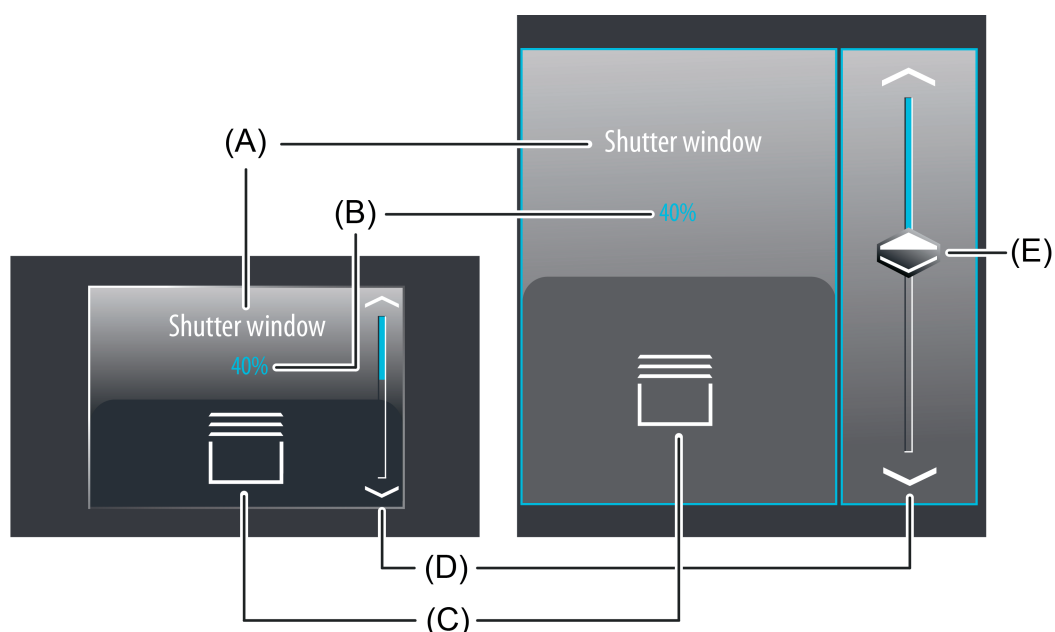

Figure 31: Example of an operating and display element of the function "Rolling shutter positioning"
In the selection operation, a slider (E) is also available in addition to the sensor surfaces \wedge / \vee for positioning in the end positions or for value (figure 31). It is possible to specify positions for blind/shutter heights directly with graphic support using the slider. For this purpose, the slider can be set by finger pressure or continuously moved. To set the slider, you must touch the slider area at the required position with your finger. The slider then jumps immediately to the required position. At the same time, the device transmits the position value specified thus as a setting to the bus.
The display area contains different display elements (figure 31) that are influenced by parameters. A name can be assigned to each KNX function in the configuration software (A). This text name is centred in the display element for display whereby controllable KNX functions are identified for the user (e.g. "Rolling shutter window"). In addition, a status value (B) for the blind/shutter height can be displayed below the name, which either displays position values in plain text ("0...100 %") depending on the object value of the position feedback of the Venetian blind or rolling shutter actuator addressed or alternatively directly depending on the preset position value of the operating element. After a device reset, the display shows "---%" until a feedback object value of the status text is received or a position value is specified.